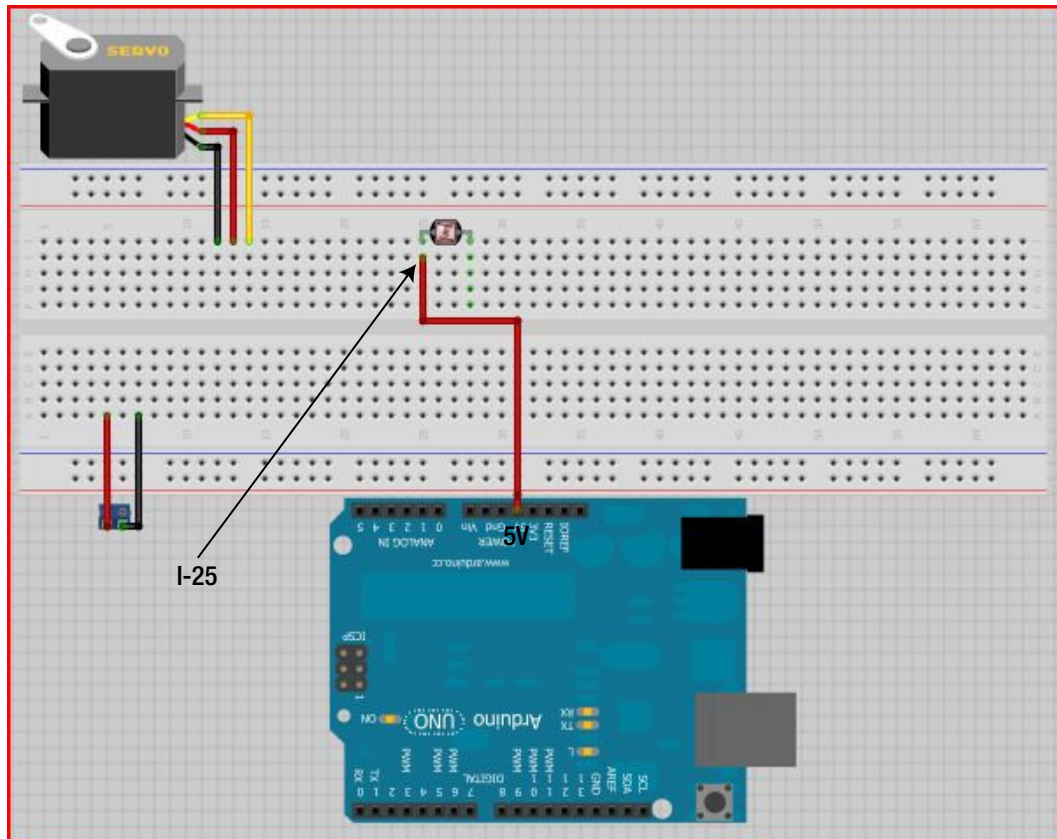

Figure 27-7. Connect 5V power from the Arduino to the photoresistor
- Now run a jumper wire from the +5V pin on the Arduino to I-25 of the breadboard. (We used a red wire, but any color will work.) Figure 27-7 illustrates this process.